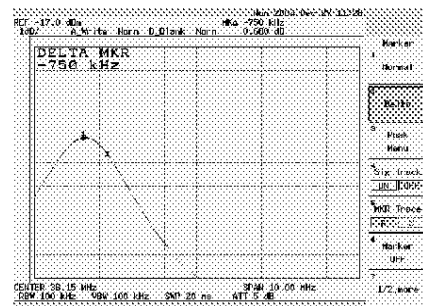

Fig. 2
- ☐ Calibrate C17 and L5 to tune the cell of D.P. to the frequency of the audio carrier subtracting about 750kHz (Fig.2) with JP3 on and JP4 and JP5 off.